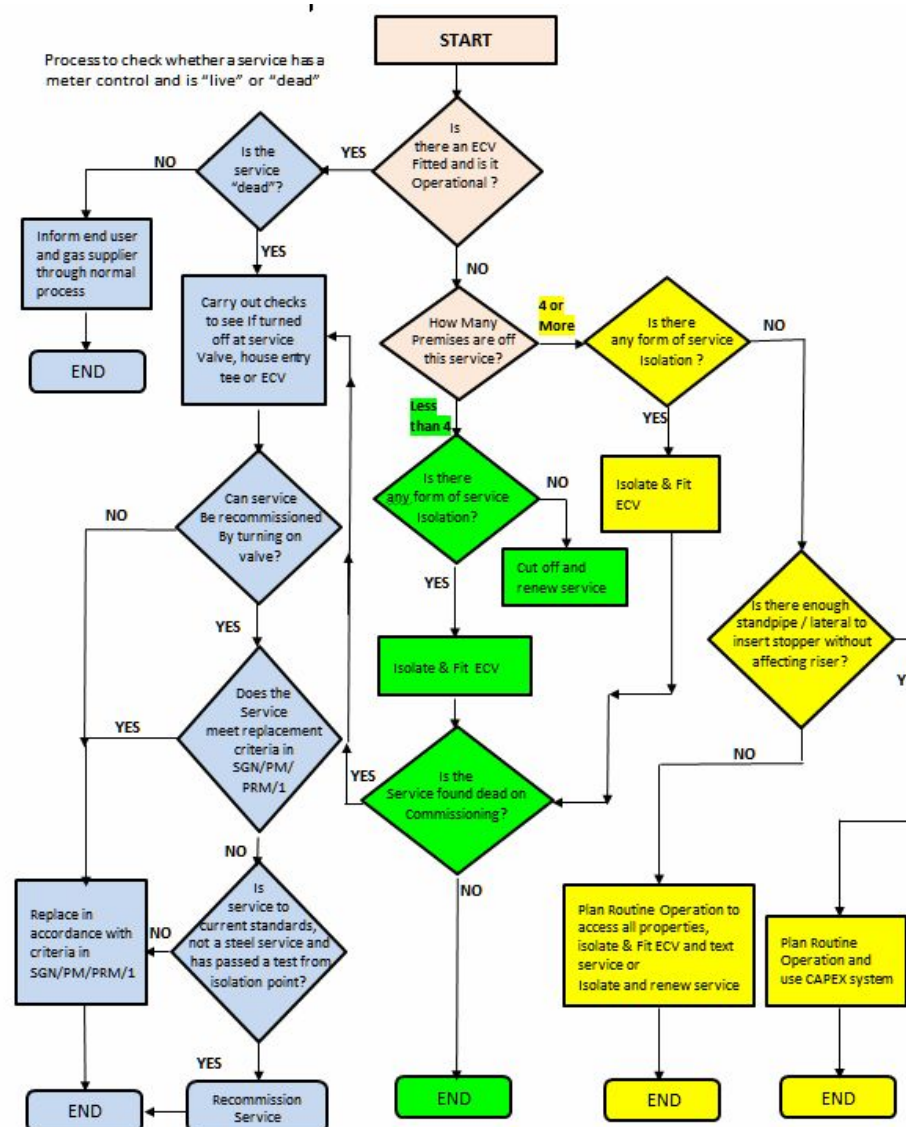

Figure 108- Dealing with plugged & capped standpipes
- b) If the service is suitable use the CaPEX tool. (see procedure SGN/PR/TE/H1.1 and process chart Figure 108